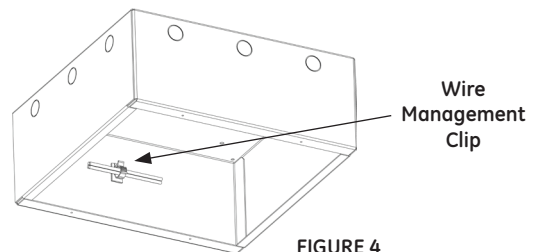

FIGURE 4
- Secure wiring to the side of the mounting box using provided wire management clip (See Figure 4).